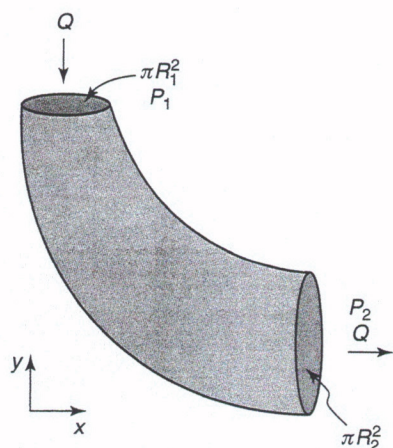

Figure 9.47
19. What is the direction and magnitude of the force needed to support the 90-degree expanding pipe bend shown in Figure 9.47? The water flow is steady and turbulent, the cross section of the inlet of the pipe bend is πR_1^2 , and the cross section of the outlet of the bend is πR_2^2 , where $R_2 > R_1$. Evaluate your answer for $R_1 = 0.545$ inch and $R_2 = 0.834$ inch and various values of flow parameters.